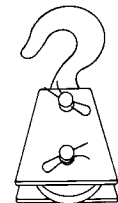

Figure 15
3. USE A PULLEY BLOCK FOR HEAVY LOADS. To maximize winch and wire rope life, use a pulley block to double line heavier loads (Figure 15).